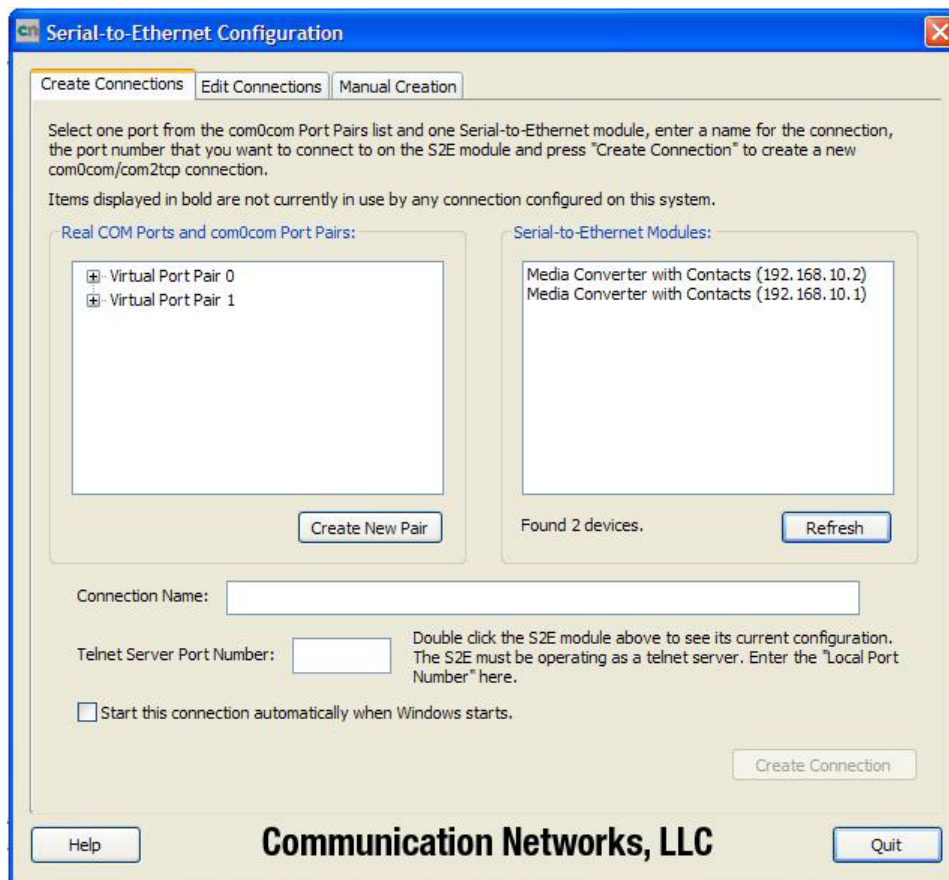

Figure 19 - Main ComNet Contact over Ethernet module Configuration application window
- » Select **Start** ComNet Contact over Ethernet module Configuration application by double click on the icon **cns2econf.exe**, The "Main ComNet Contact over Ethernet module Configuration application window" appears as shown above in Figure 19.